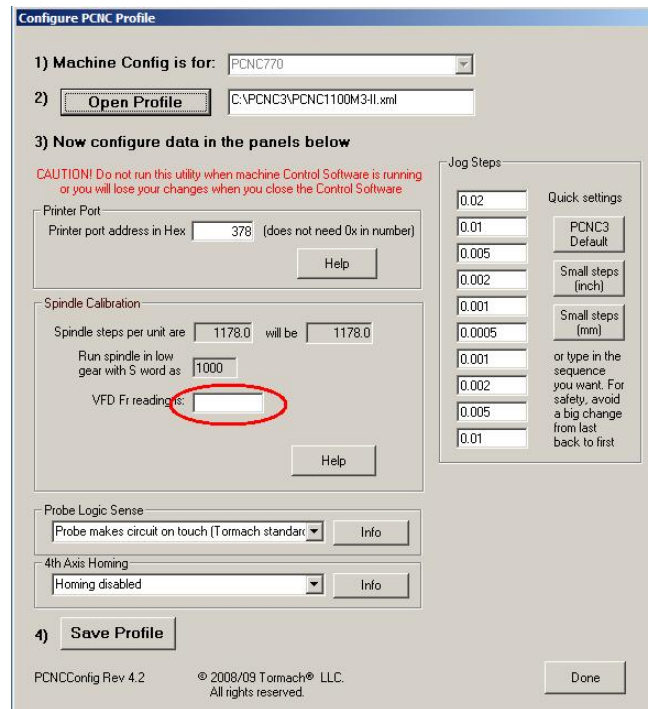

Figure 9.11 – The measured frequency
- Next, under the “Speed Calibration” heading enter the frequency you recorded earlier (figure 9.11). The software will display a new "Spindle steps per unit" value.